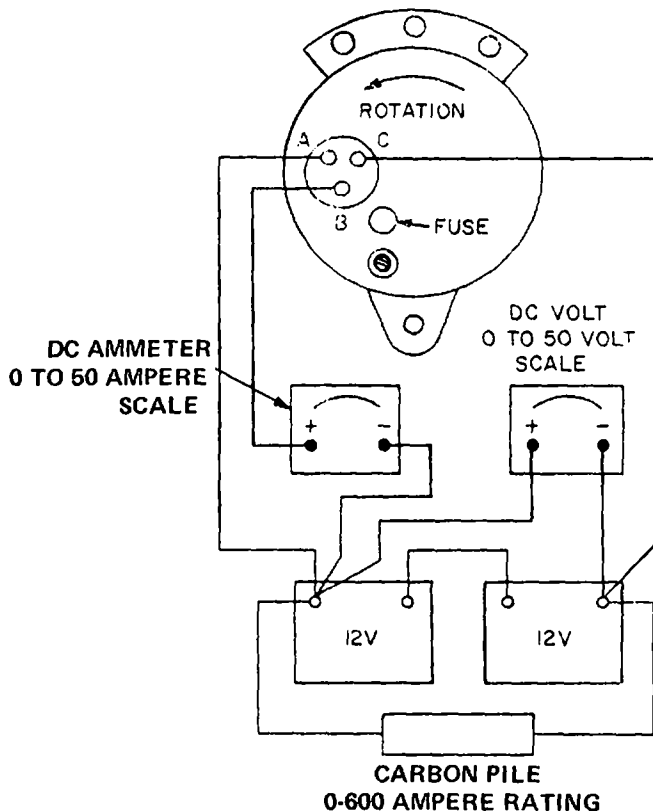

Figure 4-6. Alternator G2, Output Test
(2) Connect circuit as shown in figure 4-6.